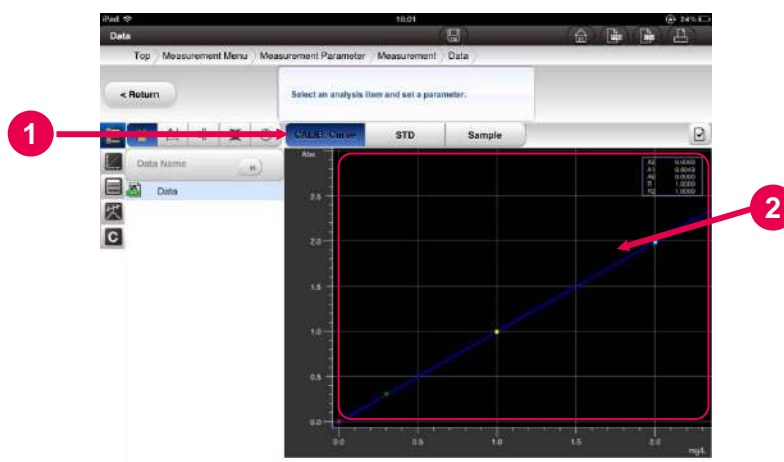
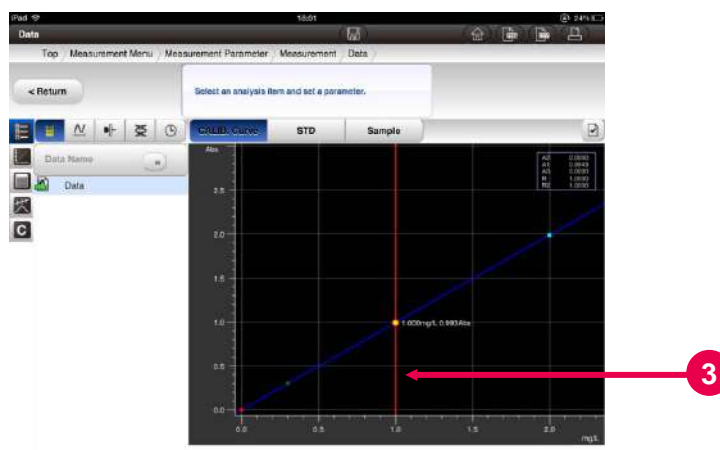

Fig. 5-28 Calibration Curve Data Check Window
Fig. 5-29 Calibration Curve Data Check Window (Displaying the Trace Bar)
- (2) The calibration curve graph (Fig. 5-28) is displayed. When you double-tap on the graph, the trace bar is displayed (Fig. 5-29). The concentration and the photometric value in the current trace bar position are displayed at the intersection of the trace bar and the calibration curve. As a result, the photometric value at the target concentration can be read. You can move the trace bar by moving a figure to the left or right over the bar.
- (3) To hide the trace bar, double-tap on the bar.